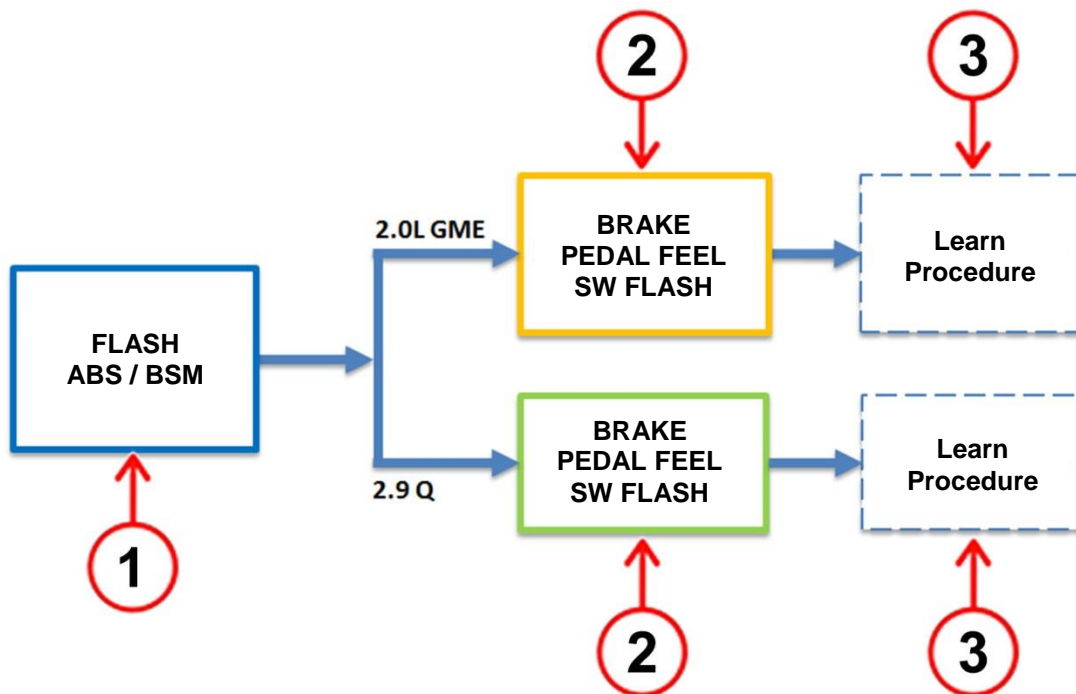

Figure 21 – ABS / BSM Software Reprogramming Sequence
NOTE: To update the ABS / BSM software (SW) to proper level, the procedure must be followed in the same sequence as listed below (Figure 21):